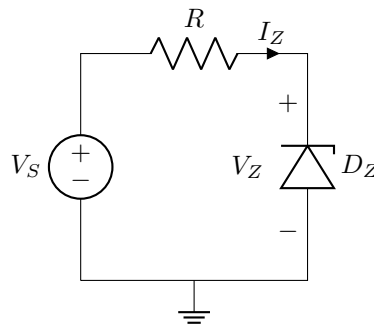

Figure 3: Zener diode characteristic measurement circuit. The Zener diode is reverse-biased with the cathode toward the positive supply.
Construct the circuit shown in Figure 3 using a Zener diode and a $100\ \Omega$ resistor. Pay careful attention to the polarity: for the Zener to operate in breakdown, its cathode (the marked end) must be connected toward the positive terminal of the supply through the resistor, and its anode must be connected to ground. This is the reverse of normal diode operation.
4. For the Zener circuit in Figure 3, assume $V_S = 10 \, \text{V}$, $R = 100 \, \Omega$, and $V_Z = 5.1 \, \text{V}$ (and assume this voltage remains constant in breakdown). Calculate (a) the current through the Zener diode, (b) the power dissipated by the Zener diode, and (c) determine whether this exceeds a $1 \, \text{W}$ power rating. Show all work.
5. Explain in your own words the difference between static (DC) resistance and dynamic (small-signal) resistance of a diode. Write the mathematical expression for calculating each type of resistance.